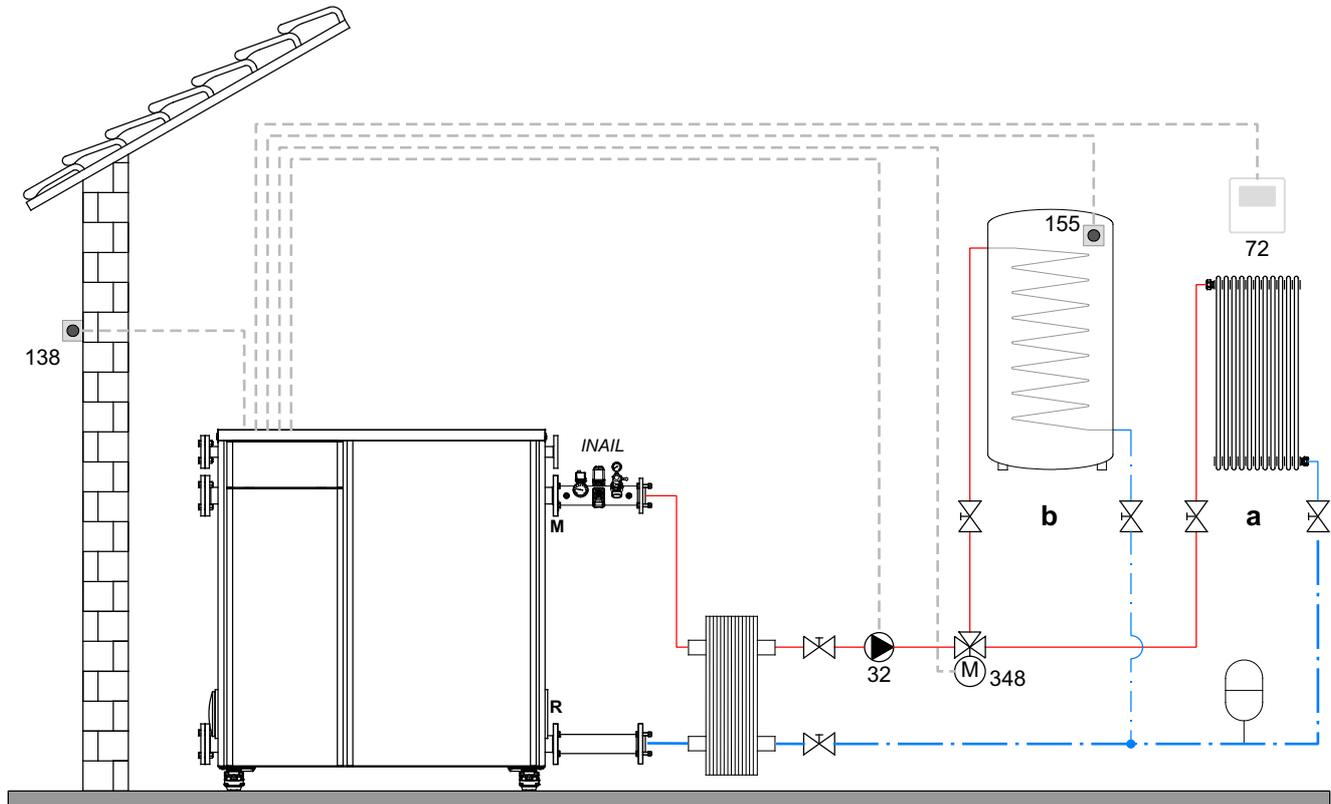
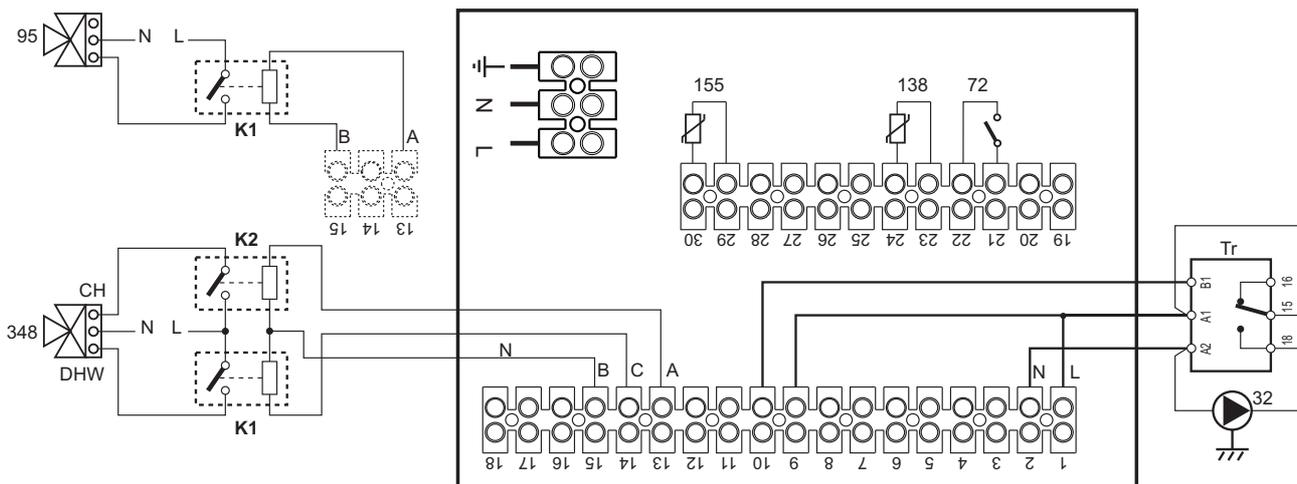

fig. 61
fig. 62
**Legend (fig. 61 and fig. 62)**
**To avoid damaging the board, it is advisable to use external relays to control the 3-way valve, as indicated in fig. 62.**